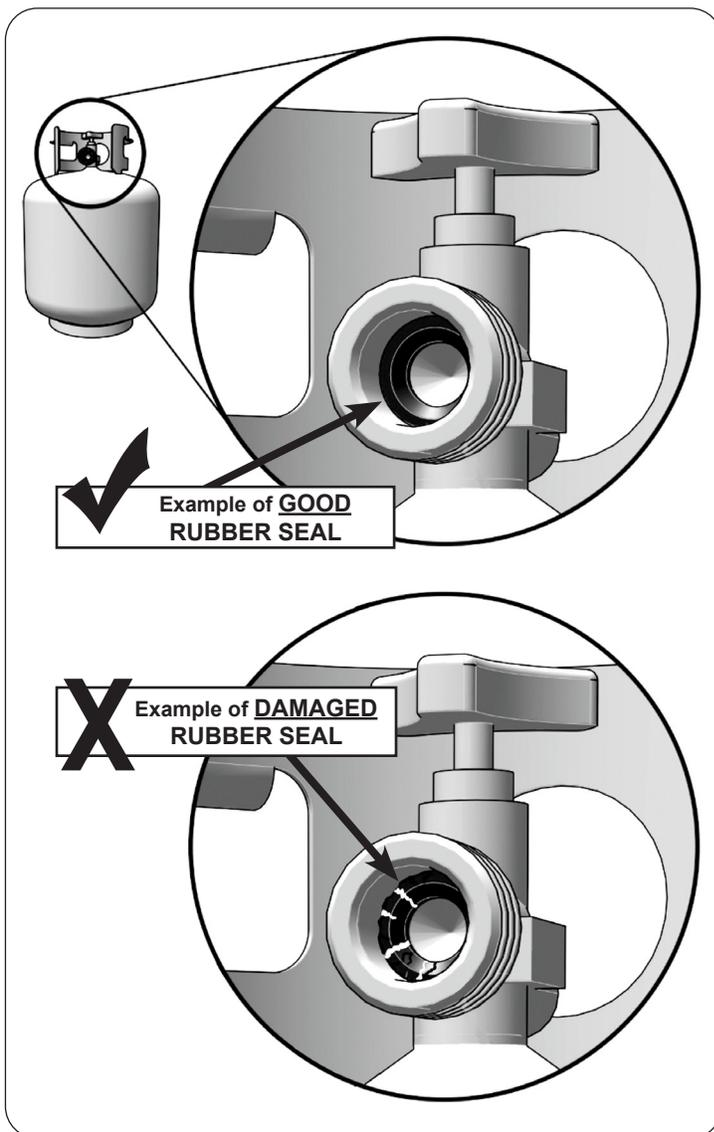

Fig. 4-1 Inspect rubber seal
- D. **CGA 791 connections on LP gas cylinders:** The cylinder face elastomeric face seal element on these devices could, over time, show marked and visible damage or deterioration that might cause a leak even with the connection tightened. A visual inspection for the seal must be carried out every time a LP gas cylinder is replaced or refilled. Any LP gas cylinder showing signs of damage or deterioration as illustrated in Fig. 4-1, including visible cracks and pitting, must be replaced.